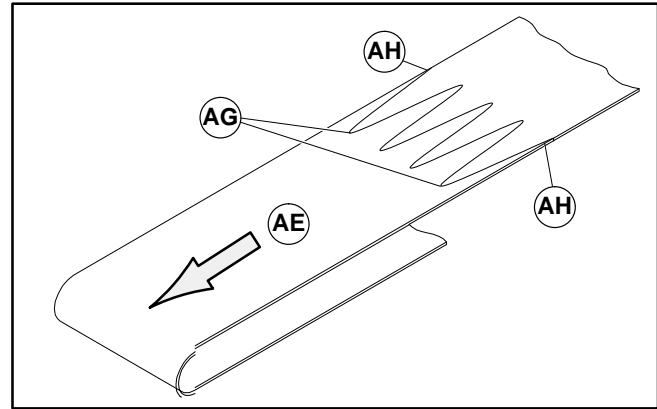

Figure 14
1. Orient replacement belt so belt splice leading fingers (AG of Figure 14) point in direction of belt travel (AE) and that outside fingers (AH) are positioned as shown.